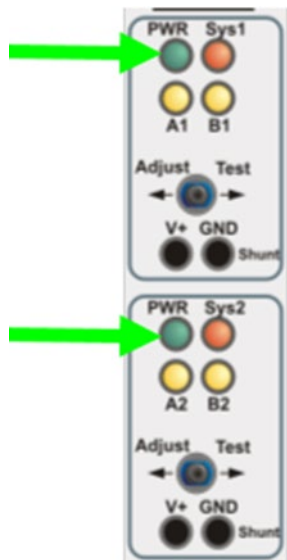
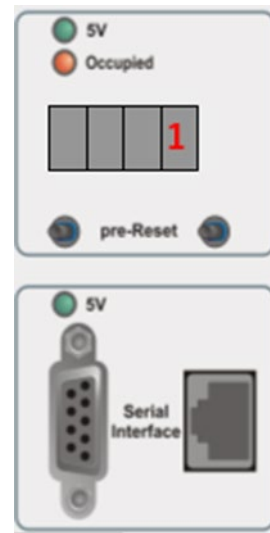

Figure 30 – IMC Board
Figure 31 – ACB Board
5.9 At the end of the simulation, when the PB200 testing plate has passed beyond the sensor check the LED indications SYS2 and B2 have extinguished on the IMC Board leaving the two PWR indications illuminated, this indicates that the head/sensor has sensed a complete sweep (Figure 30). Check the ACB Display now indicates a single axle count (Figure 31).